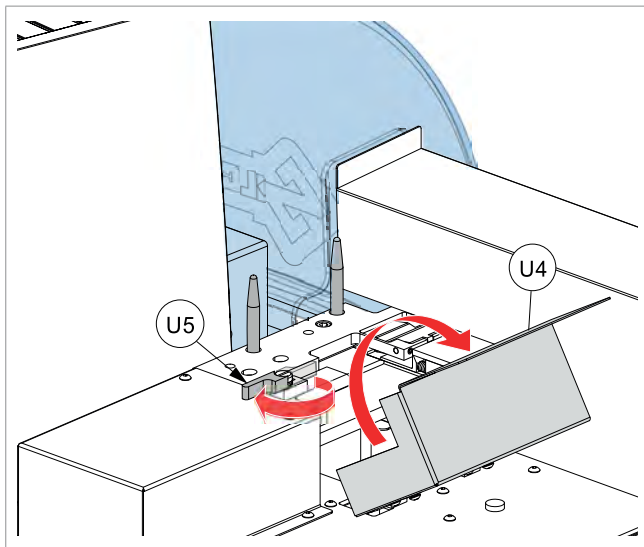

Fig. 103
- 1) Rotate the protective shield (U4) (Fig. 103).
- 2) Open the lever (U5) completely (Fig. 103).